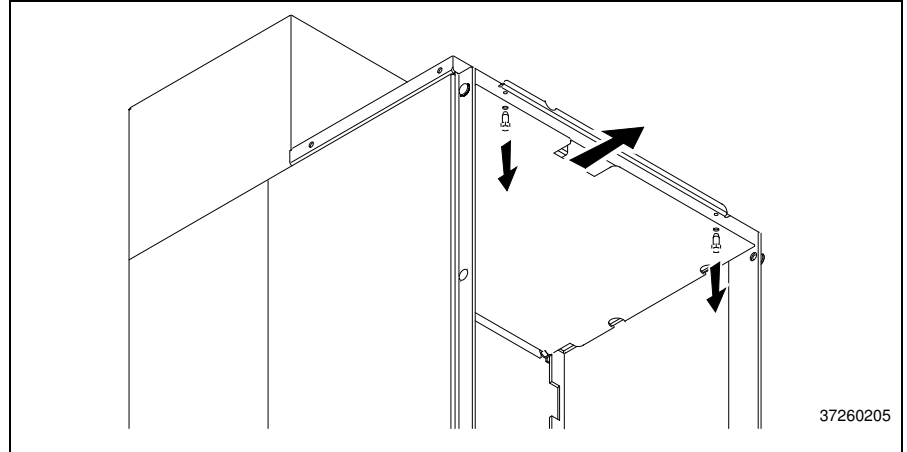

Fig. 12
- 2.** Remove the bus bar covering sheet from the top part of the cable connection housing (Fig. 12). For this purpose unscrew both fastening screws and pull the sheet out of the clip-on clamps.